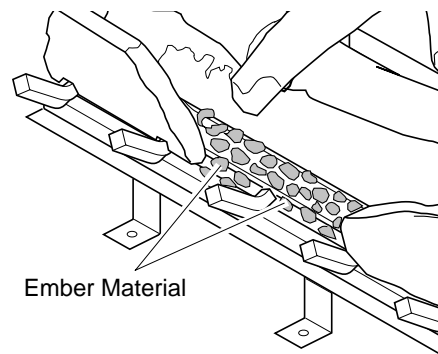

Figure 54 - Placing Ember Material on Burner
6. Pull ember material apart into pieces no larger than a dime. Place these pieces loosely and sparingly directly onto the exposed section of the front burner and along the space between the burner and grate prongs (see Figure 54). This will create the glowing ember appearance as the flame touches the ember material. Do not block air slots by using too much ember material in one area. It is not necessary to use all of the ember material provided.